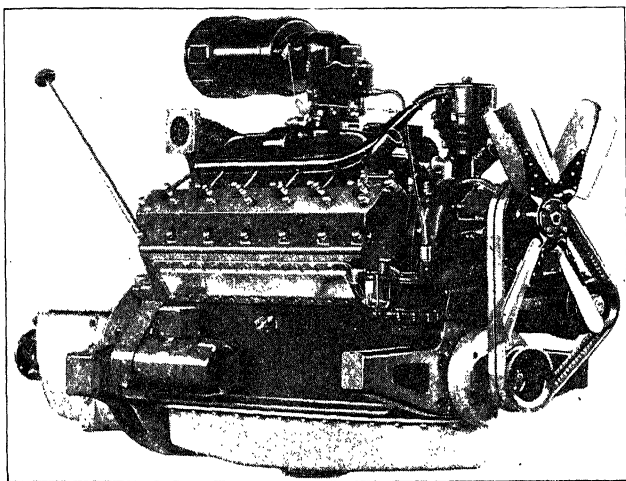
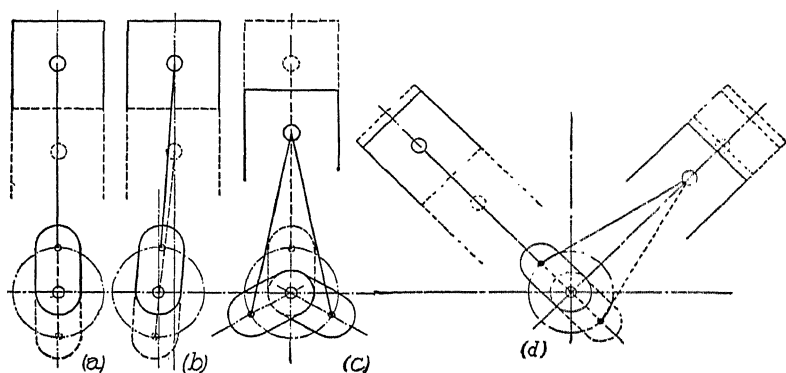

Fig. 19. Packard Twelve Engine
Fig. 22. Diagram of the "Dead Center" Problem
prove feasible. A good example of the twelve-cylinder practice was the Packard Twin Six, which has been in production for some years. A view of this appears in Fig. 19.
*Effect of Dead Centers.* In both the two- and four-cylinder engines, the cranks being set 180 degrees apart, each piston is always one complete stroke ahead of the succeeding one. When the cranks of the engine are in direct line with the connecting rod, Fig. 22 (a) the entire engine is on dead center. Fig. 22 (b) shows the same condition with offset cylinders.
In the six-cylinder engine, the cranks are set at 120 degrees, Fig. 22 (c), and therefore we have no condition when the entire engine is on dead center. It is impossible to have more than two of the cranks on dead center at once. Hence, there is never a time in the six-cylinder cycle when the engine does not produce power.
In the eight-cylinder V-type engine, the cranks are set 180 degrees apart, as in the four-cylinder, but the cylinders are set at 90 degrees, 45 on each side of a vertical, as shown in Fig. 22 (d). The connection of the side by side cylinders of each pair of fours to a common crank pin—the two number one cylinders, for instance, working on the first pin, the number twos on the second, etc.—eliminates all dead centers. This is one advantage of the V-type over the straight-line type, for the latter has a dead-center cylinder.
In the twelve-cylinder V-type, Fig. 19, the cranks are set at 120 degrees as in the six, but the cylinders are set at 60 degrees, 30 on each side of the vertical, the only difference from that in Fig. 22 (d) being in the angle. The crank-pin attachment in the twelve is similar to that in the eight, the first two cylinders working on the first crank pin, the second two on the second pin, and so on. Obviously the form of the crank and the setting of the cylinders at an angle eliminate all dead centers.